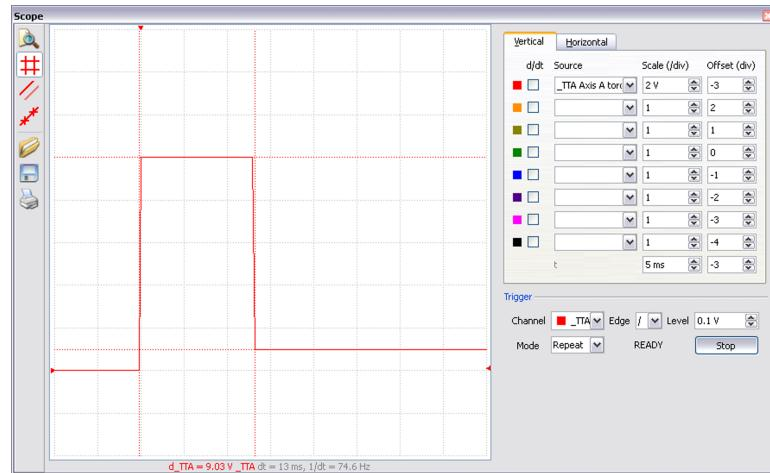

Figure A1.2: Peak Current Operation
The gain is set with the AG command as shown in Table A1.1 for AG $n=m$. Select the amplifier gain that is appropriate for the motor. The gain settings for the amplifier are identical for the brush and brushless operation. The amplifier gain command (AG) can be set to 0, 1, or 2 corresponding to 0.4, 0.7, and 1.0 A/V. In addition to the gain, peak and continuous torque limits can be set through TK and TL respectively. The TK and TL values are entered in volts on an axis by axis basis. The peak limit will set the maximum voltage that will be output from the controller to the amplifier. The continuous current will set what the maximum average current is over a one second interval. Figure A1.2 is indicative of the operation of the continuous and peak operation. In this figure, the continuous limit was configured for 2 volts, and the peak limit was configured for 10 volts.